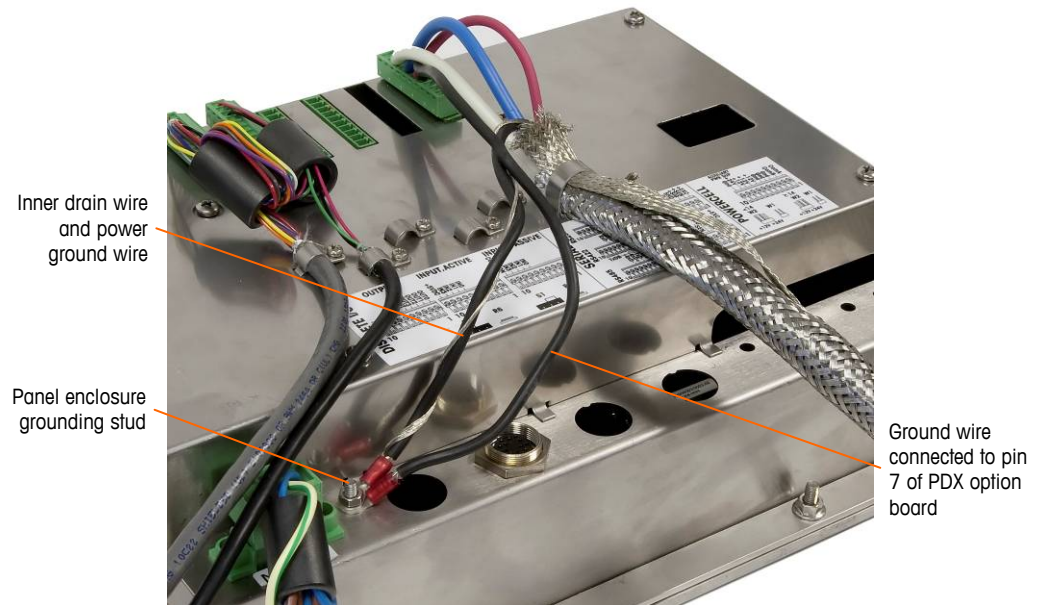

Figure 2-53: Completed PDX Home Run Power Ground Connection, Panel Mount Enclosure
6. For an IND780 Q.iMPACT panel mount enclosure, make the terminations described in step 5 to the external ground stud indicated in Figure 2-53.